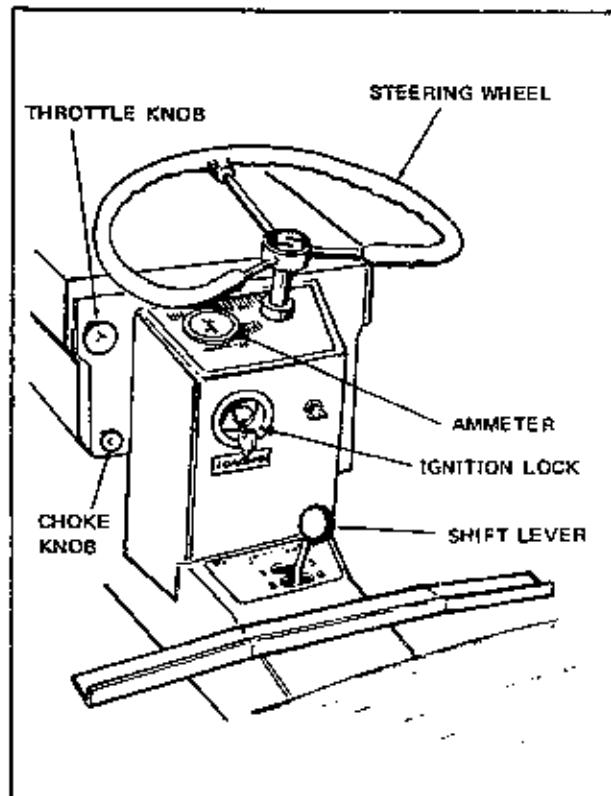
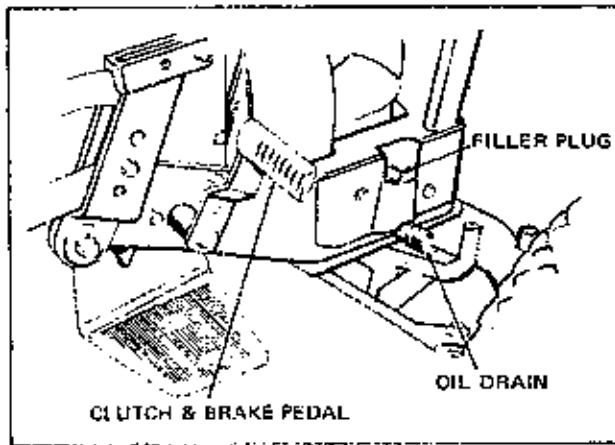

Figure 9
Figure 11
Service air cleaner and crankcase as recommended in Engine Service Manual. Be sure air cleaner is maintained in clean condition. Never use oil in crankcase for more than 25 hours of operation. See Figure 11. CLEAN AIR AND CLEAN ENGINE OIL WILL GIVE LONG TROUBLE FREE OPERATION. DIRT WILL RUIN YOUR ENGINE IN A
1. Place gear shift lever in neutral position. See Figure 9. (Be sure tractor is on level ground and will not roll away in neutral. Apply parking brake).
2. Pull choke knob out. See Figures 9 & 10.
3. Set throttle lever in mid position and turn ignition key clockwise to start engine and release. See Figure 9. As engine warms up, push choke knob in. Pull throttle knob out to desired position and turn to lock.
To place gear shift in desired gear range, depress the combination brake and clutch pedal located on right hand side of tractor. See Figure 11. When pedal is depressed, move shift lever to desired position (See Figure 9) and gradually release pedal until clutch is engaged. When shifting from one range to another, pause briefly in neutral before completing shift. Set throttle lever to obtain desired speed. See Figure 9.